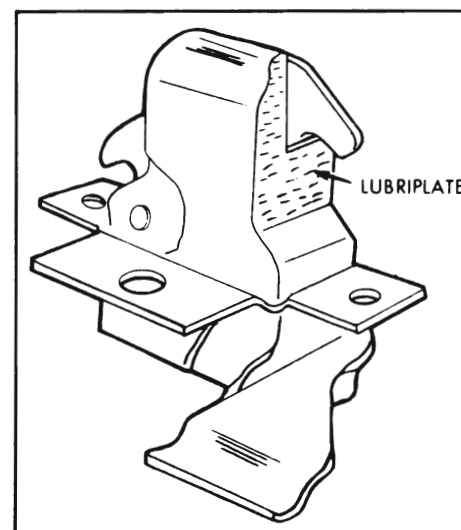

Figure 1-21—Hood Latch Lubrication
**1. Hood Latch and Hinges.** Apply Lubriplate to hood latch as shown in Figure 1-21. Apply engine oil to hood hinge pins.